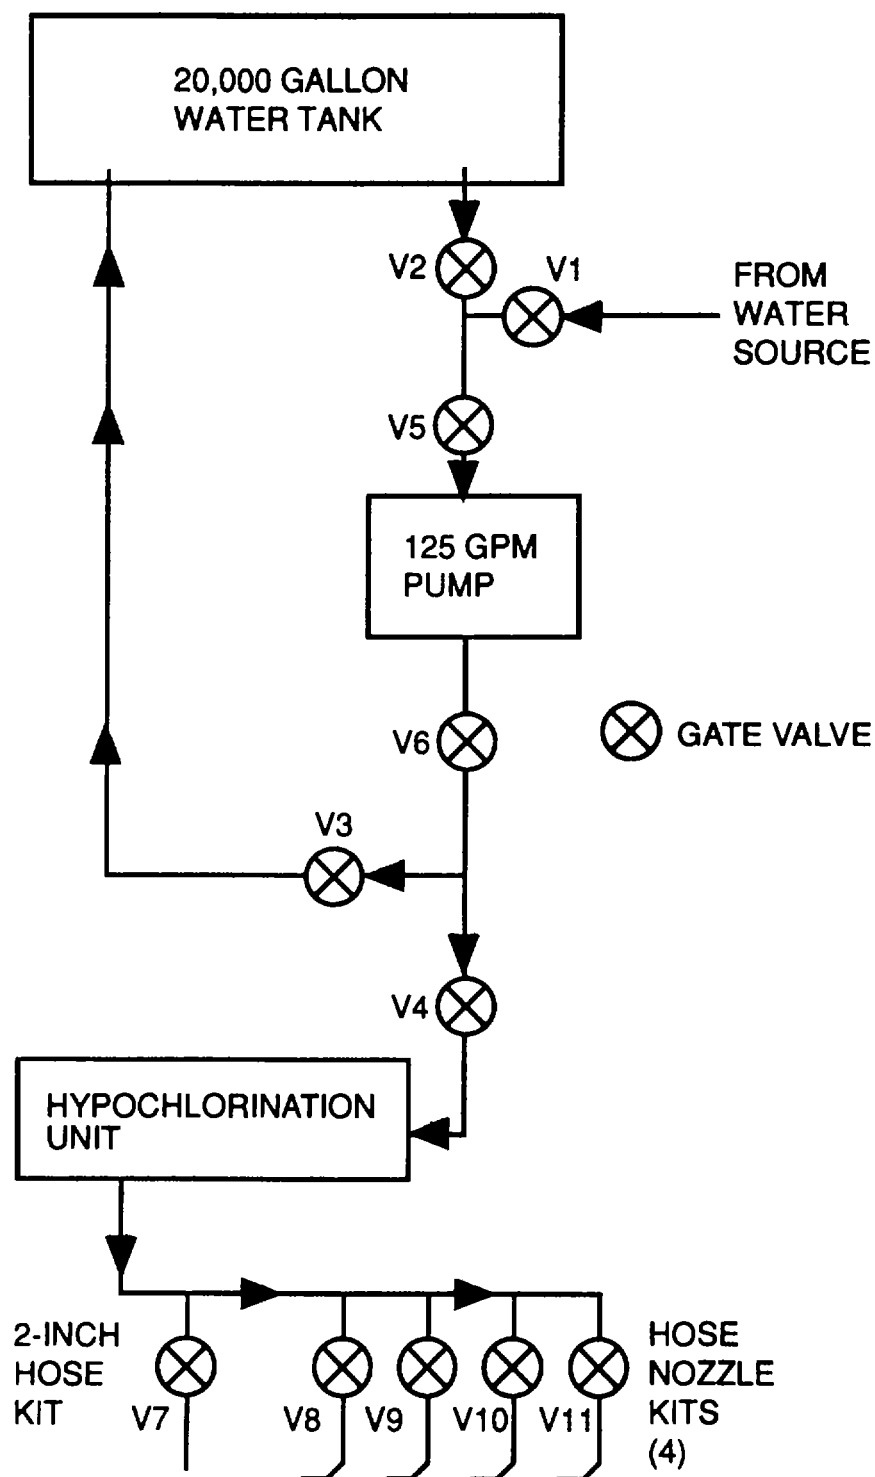

Figure 2-15. Water System Control Valves
- (1) Close all control valves (V1 through V11), (Figure 2-15).
- (2) Open control valves V2, V3, V5 and V6.
- (3) Start and operate 125 gpm pump. Refer to the applicable TM.
- (4) At the hypochlorination unit, disconnect 4-inch discharge hose from the input (pump side).
- (5) At 2-inch hose connection kit, open control valve V7 and allow water to drain from components.
- (6) At hose nozzle kits, open control valves V8, V9, V10 and V11 and the distribution nozzles to allow water to drain from components.
- (7) Drain water and hypochlorite solution from the hypochlorination unit. Refer to the applicable TM.